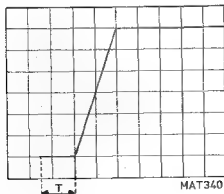

Fig. 3.12. Effective signal delay.
- Check that the effective delay time T is larger than 1 DIV (see fig. 3.12).